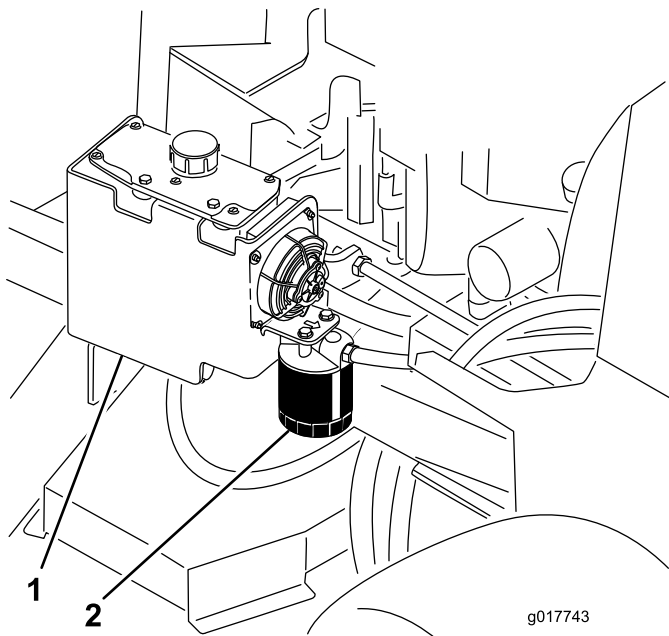

Figure 78
3. Locate the filter and place drain pan under filter (Figure 78).